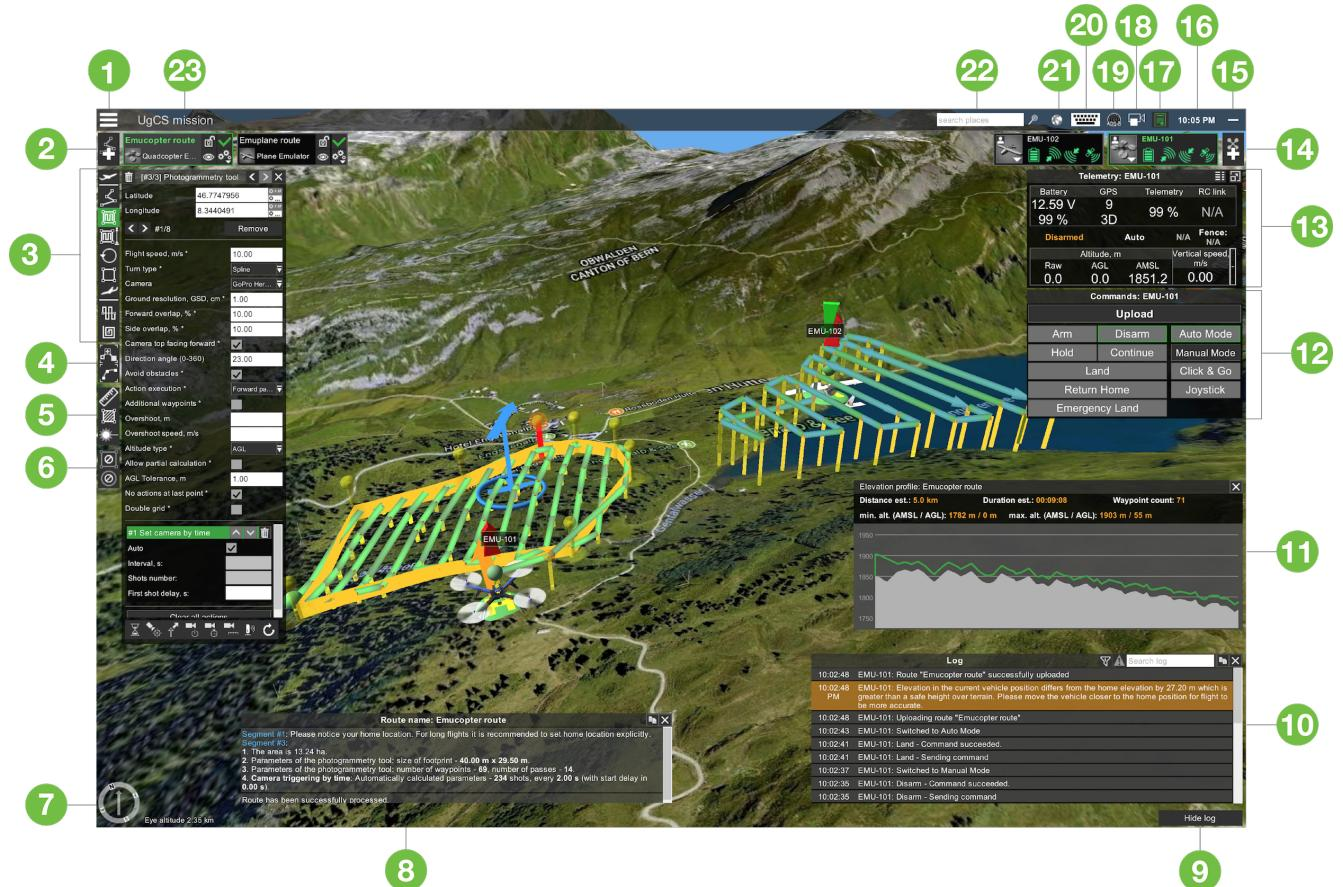

Figure 4 - Mission editor
By default, mission editor is the first window that is displayed after application starts. UgCS version number of applications is displayed in the upper left corner. Please provide the UgCS version number when contacting UgCS support. Please see Figure 4 - Mission editor for more detailed explanation of main functionality.
1. To start planning the route click the Add new route button (see Figure 4 - Mission editor #2);
5. Leave the default parameters at the last step. More information about this window can be found in section “Route parameters and path finding”. To create a route with provided settings click “Ok”. A new route card will be displayed (see Figure 4 - Mission editor #2) with the specified name;
6. To create the route, select any of the Route planning tools (see Figure 4 - Mission editor #3) and add segments on a map by double clicking or “SHIFT+right click”. Each Route's planning tool has associated inspector window enabling to adjust parameters like coordinates, altitude, speed that will be considered during the calculation process. Also, the turn type and camera actions settings can be adjusted;
7. The path-finding algorithm of UgCS will automatically start the calculation of the flight path in a few seconds when user stops editing the route. The status of the calculation will be displayed as the Route's calculation indicator on the Route's card (see Figure 4 - Mission editor #2);
8. When the route is successfully calculated (green checkmark) it can be Uploaded to the vehicle. To take off, Arm the vehicle and turn on Auto flight mode (see Figure 4 - Mission editor #2).
Route planning tools are organized as a tool bar (see Figure 4 - Mission editor #3). Usage algorithm for each tool:
Route points placed at the same height relative to the ground. This height is calculated based on camera settings and set GSD value. Calculated parameters (number of passes, number of camera shots, etc.) are displayed in route log window (see Figure 4 - Mission editor). Photogrammetry tool is available for UgCS ONE, UgCS PRO and UgCS ENTERPRISE license.